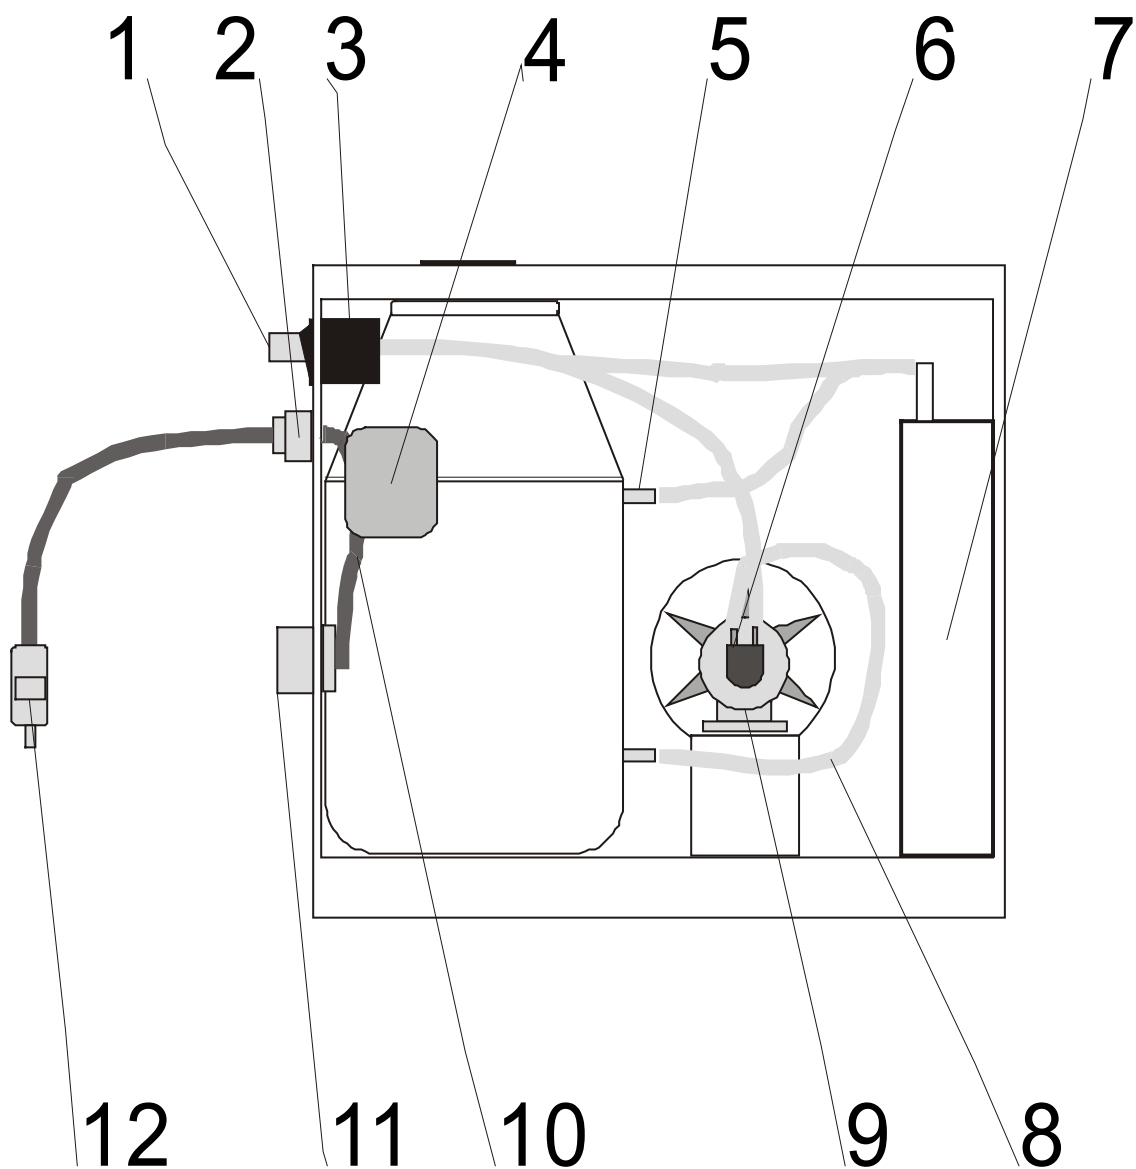

Fig 1: Main parts
3. Connect the blue signed water quick connector into the blue signed water connector on the cooling unit (Fig. 1, pos. 1).
5. By means of the main switch switch the machine ON (I) (Fig 1. pos 3). In case of CS 600WA set the desired mode by the right part of the switch (Fig 1. pos 3).
1. The Cable plug 35 (Fig. 1, pos 12) connect into the earthing connecting socket on the power source (welding machine, plasma cut ...)
2. Earthing cable of the power source connect into the Panel socket 35 (Fig. 1, pos 11)
3. Disconnect red signed water quick connector of the torch from the water quick connector of the cooling unit (Fig. 1, pos. 1)